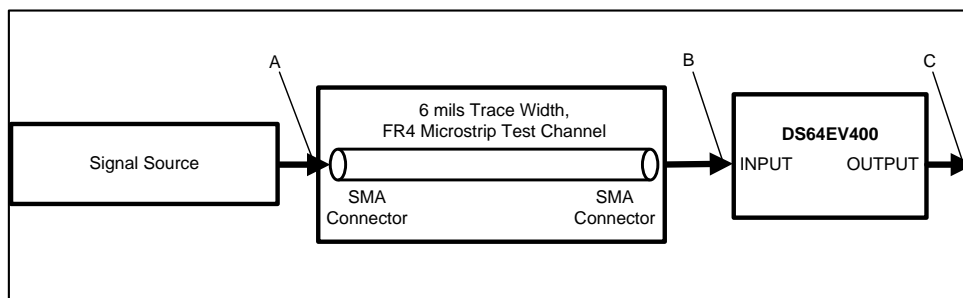

Figure 2. Test Setup Diagram
(6) Deterministic jitter is measured at the differential outputs (point C of Figure 2), minus the deterministic jitter before the test channel (point A of Figure 2). Random jitter is removed through the use of averaging or similar means.
(7) Specification is ensured by characterization at optimal boost setting and is not tested in production.
(8) Measured with clock-like {11111 00000} pattern.
(9) Random jitter contributed by the equalizer is defined as $\sqrt{J_{OUT}^2 - J_{IN}^2}$. J_{OUT} is the random jitter at equalizer outputs in ps-rms, see point C of Figure 2; J_{IN} is the random jitter at the input of the equalizer in ps-rms, see point B of Figure 2.